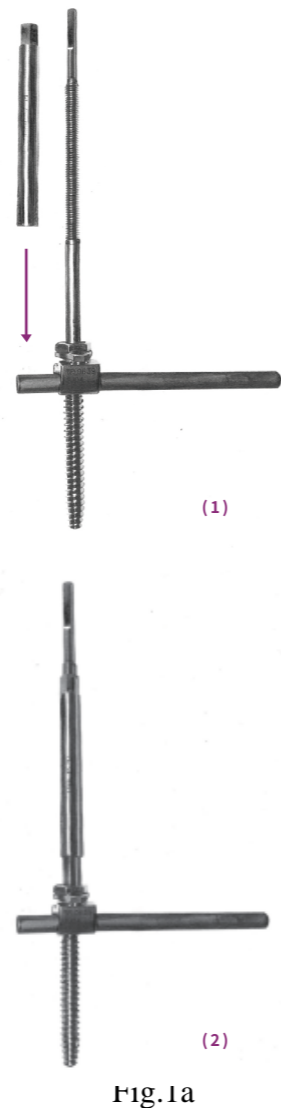

Fig.1a
-Screw the pull sleeve into the long tail of the pedicle screw until the top reaches the sleeve chuck (Fig. 1a).
- (1) Screw the lifting sleeve into the long tail of SCHANZ pedicle screw.
- (2) Pull the sleeve and screw in